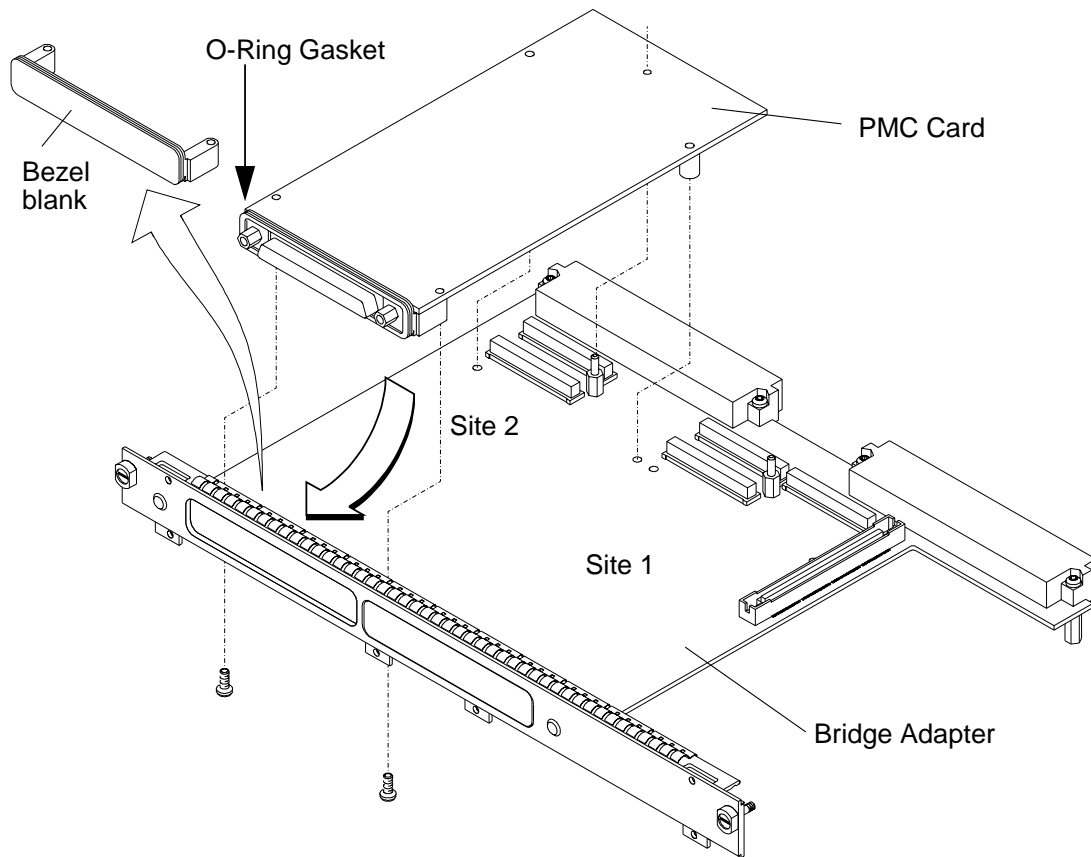

Figure 2-6 **Installing a PMC Card onto the Bridge Adapter**
- 2 On the PMC bridge adapter board, at the sites where you will be installing the PMC card(s), remove the two screws that secure the bezel blank(s), and remove the blank(s). See Figure 2-6.
- 3 Install the PMC card(s) onto the bridge adapter by aligning the front of the card with the front bezel, and the rear of the card with the connectors and keying pin. See Figure 2-6. There are four screws that secure the PMC card from the bottom of the bridge adapter.